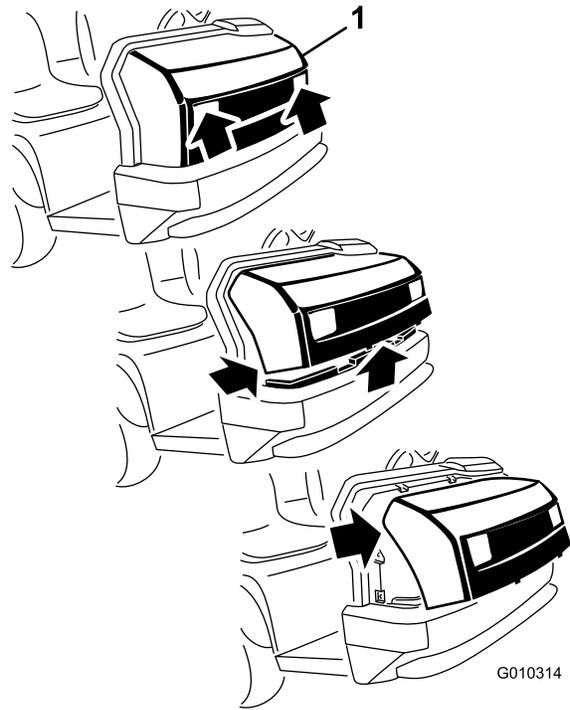

Figure 47
1. While grasping the hood in the headlight openings, lift up the hood to release the lower mounting tabs from the frame slots (Figure 47).
2. Pivot the bottom of the hood upward until you can pull the top mounting tabs from the frame slots (Figure 47).
3. Pivot the top of hood forward and unplug the wire connectors from the head lights (Figure 47).
2. Insert the top mounting tabs into the frame slots (Figure 47).
3. Insert the lower mounting tabs into the frame slots (Figure 47).